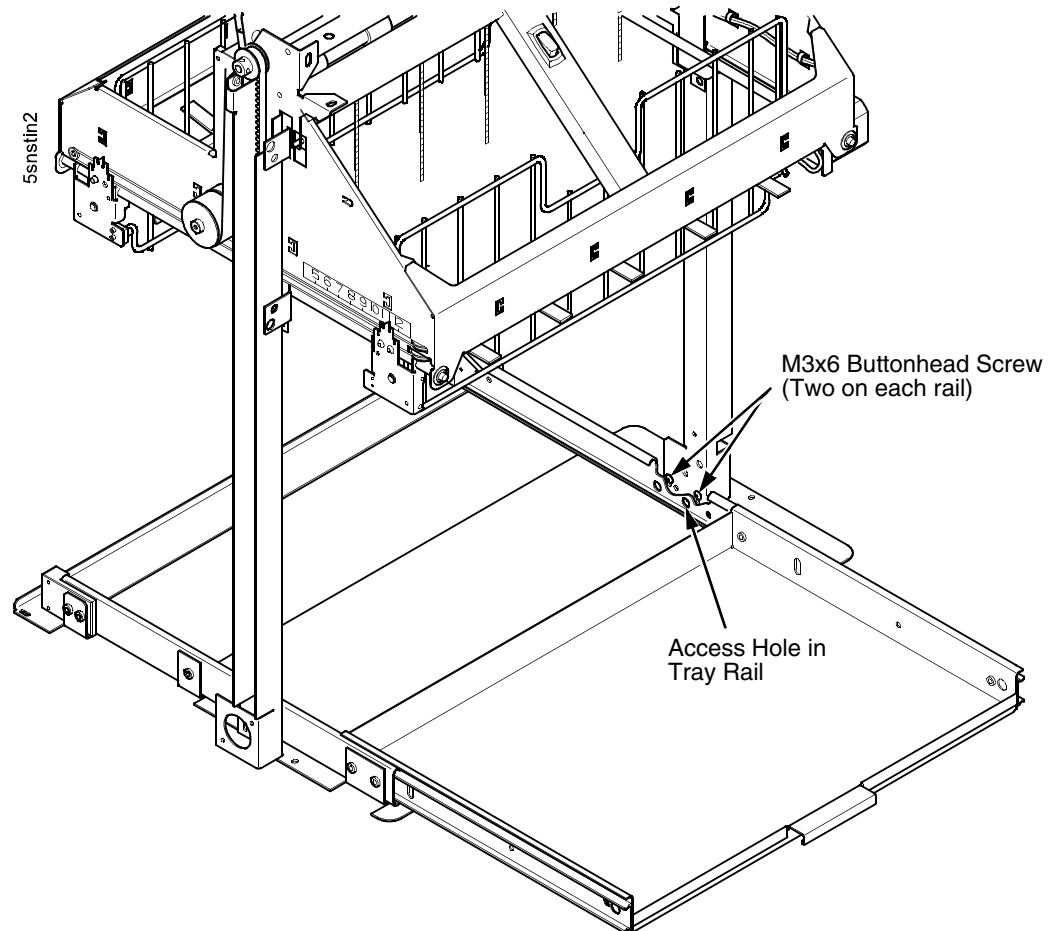

Figure 67. This figure shows how to loosen the lower screws in the vertical rails of the stacker.
11. Pull the paper tray out until the holes in the rails permit access to the M3 buttonhead screws. (Figure 67)
12. Loosen one turn—do not remove—the M3x6 screws securing the vertical rails to the stacker base. Each rail is secured by two screws. (Figure 67.)